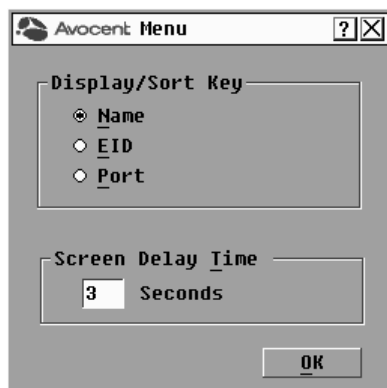

Figure 3.4: OSCAR Interface Menu Dialog Box
2. Click *Setup - Menu* in the Main dialog box to open the Menu dialog box shown in Figure 3.4.